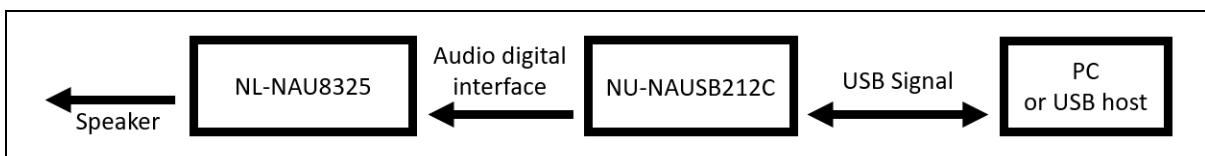

Figure 2-5 Signal Path of NU-NAUSB212C and NL-NAU8325
3. CN2 of NU-NAUSB212C uses USB Cable to connect to a PC under Windows system. (If possible, please do not connect to the PC through USB HUB). Figure 2-5 shows the audio signal path after the two boards are connected to each other.